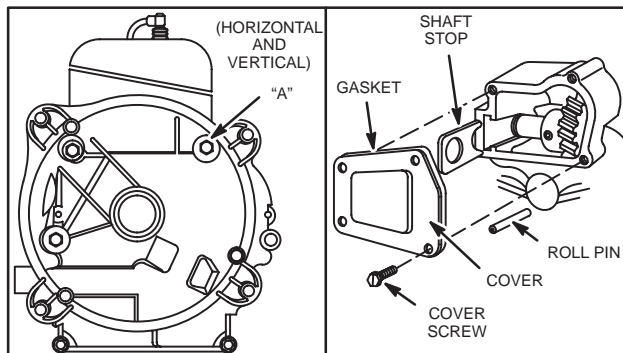

Fig. 345 - SEALANT ON SCREW "A"
3. Install sump and gasket being sure screw "A," Fig. 345 has nonhardening sealant on threads such as Permatex® II.
**NOTE:** On right angle auxiliary drive power take-off models, screw "A" does not need sealant but the four screws holding the gear sump cover require sealant, Fig. 345.